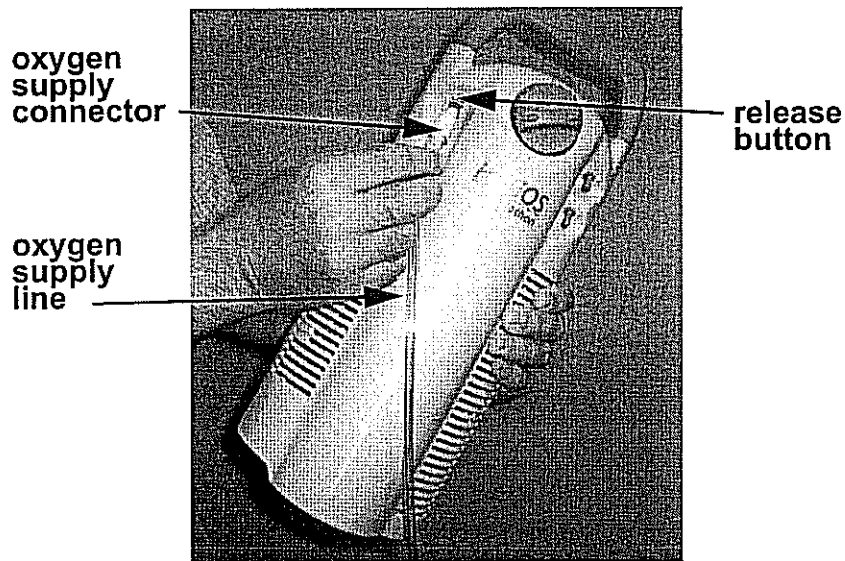

Figure 9: Connecting supply line to H850 Portable
2. Connect the opposite end of the oxygen supply line to the H850 Portable at the oxygen supply connector by pushing the supply line into the connector (Figure 9). The connectors should snap together. If the supply line does not easily engage into the H850 Portable, push the silver release button on the H850 Portable connector and try again.